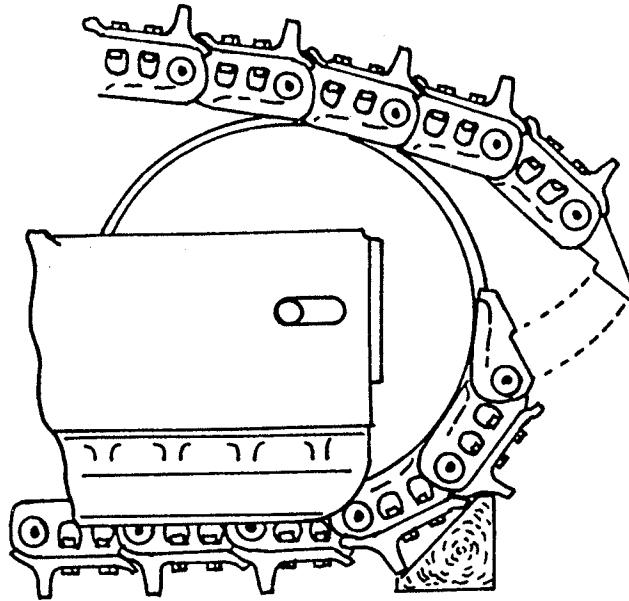

FIGURE 1
2. Move the tractor forward until the track master link (split link) is located on the front lower half of the front idler as shown in Figure 1 and block up under the track.
2. Block the track chain on the front idler as shown in Figure 1.